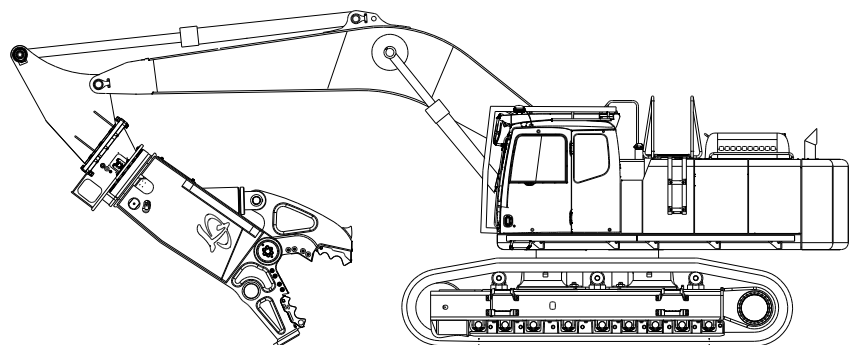

Figure 3-4
6. Have all personnel stand clear and instruct the operator to slowly lift the attachment into a position where there will be enough clearance to pin the excavator cylinder to the cylinder connection on the mounting bracket (see Figure 3-4).